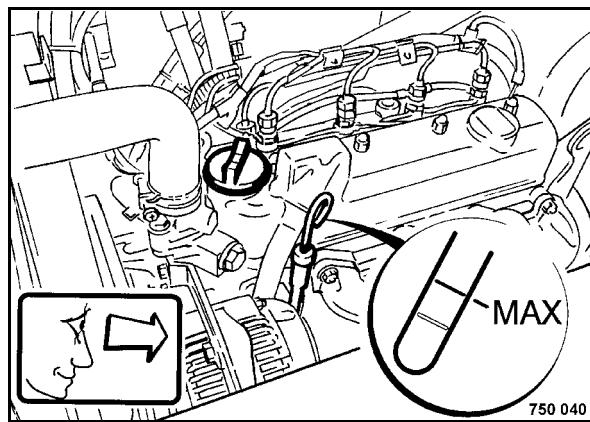

Fig. 89
- Pull the dipstick (Fig. 89) out, wipe it off with a lint-free, clean cloth and reinser it until it bottoms.